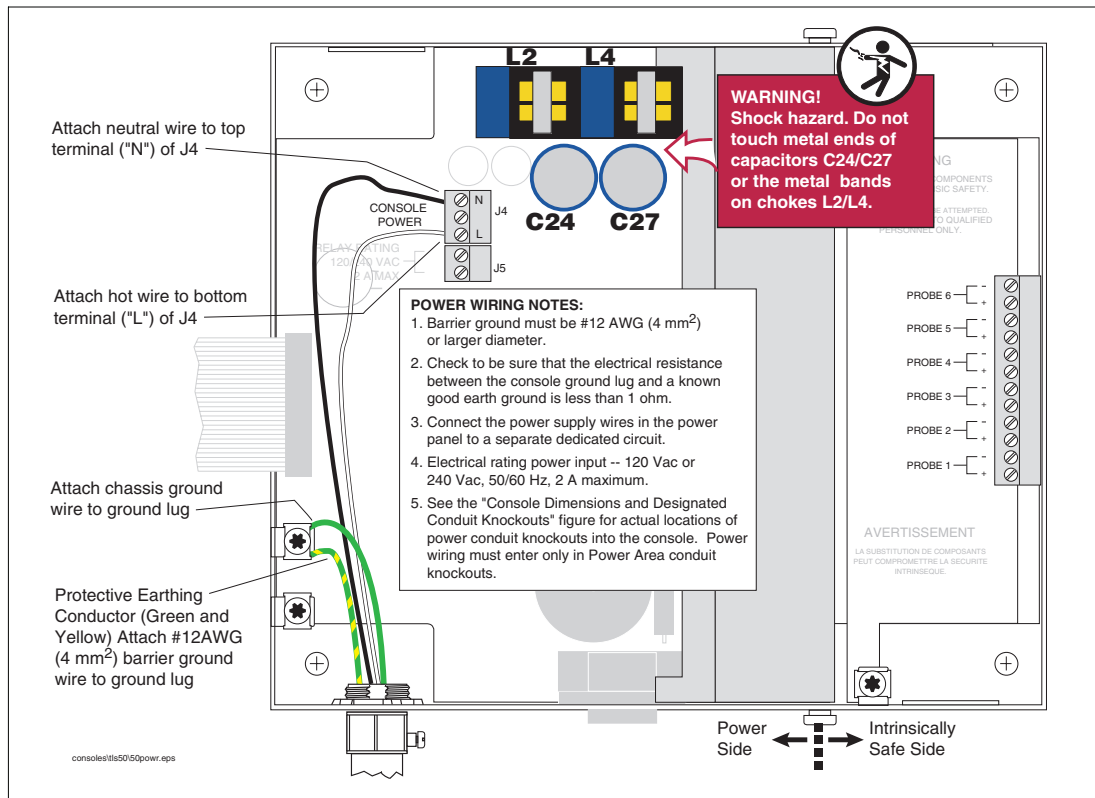

Figure 4. Wiring AC Power to the Console
2. Open the right door of the console and connect the four power/ground wires as shown in [Figure 4]. Do not connect the power wires to breaker panel at this time.